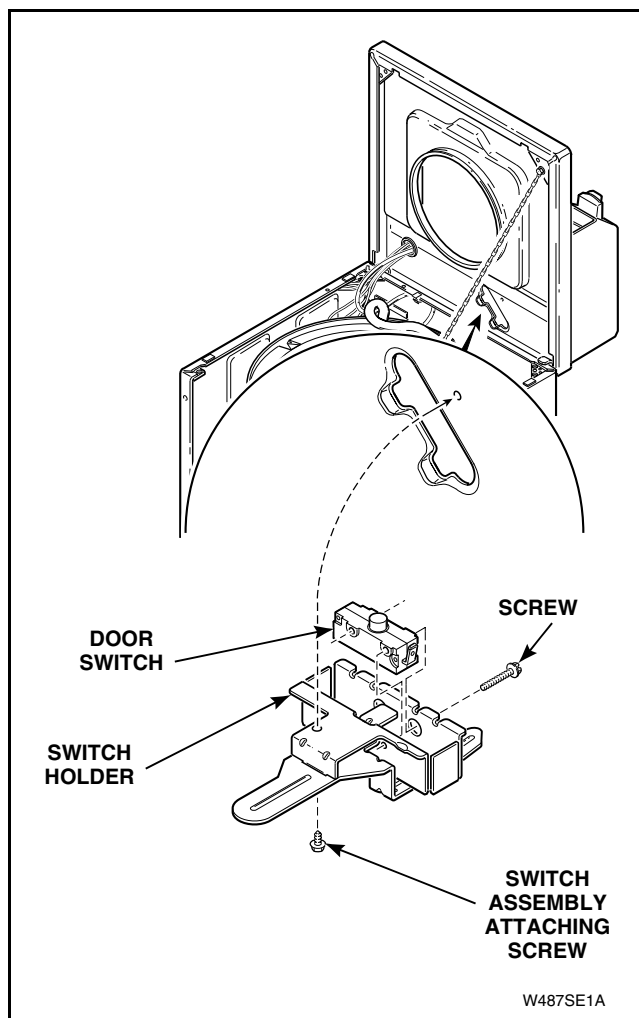

Figure 45
- e. Remove screw holding door switch assembly to underside of cabinet top. Refer to *Figure 45*.
- g. Remove two screws holding switch to switch holder. Refer to *Figure 45*.
- p. Remove screws and washers holding washtub to hub. Refer to *Figure 45*.